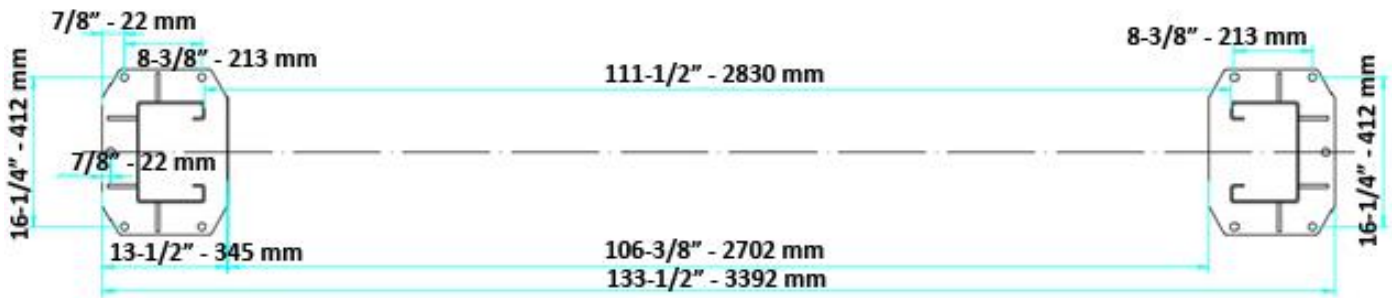
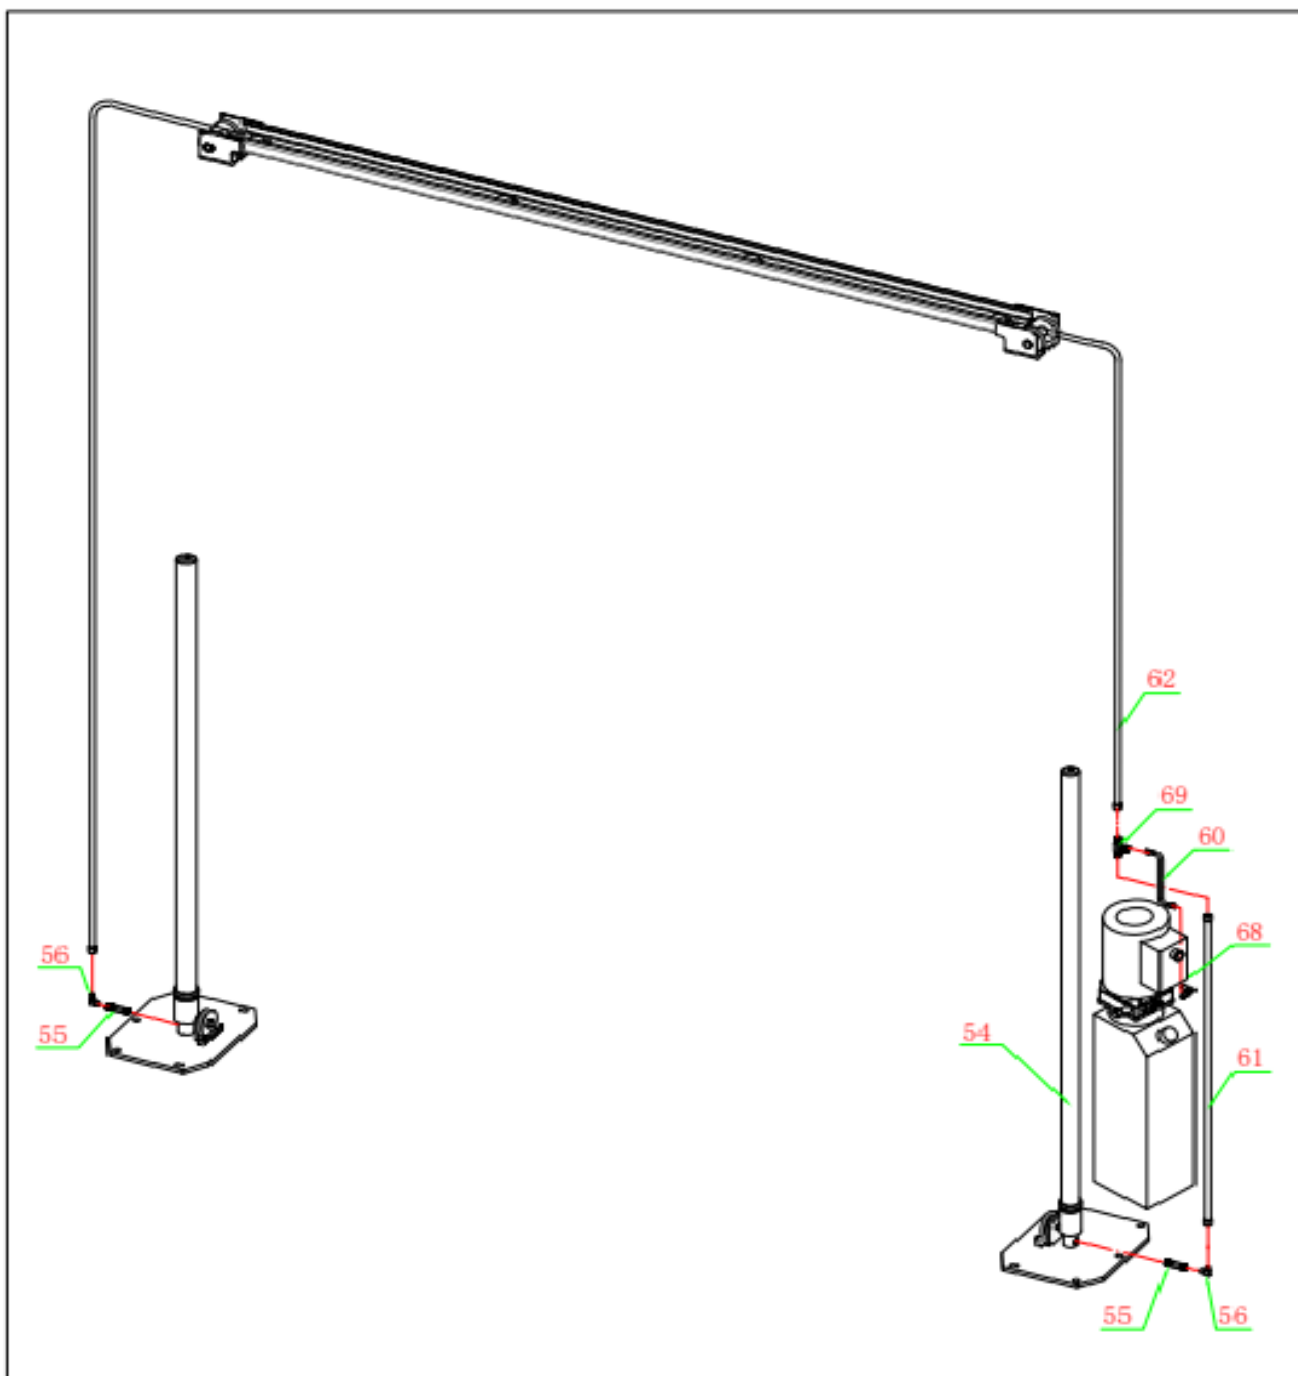

Figure 3
Figure 6
- Assembly points: (Figure 3 to Figure 6)
- Drop the two carriages to the first lock, install the nut on the wire rope as shown in the figure.. Start adjusting the nut to adjust the tension of the two steel ropes to the best state. (Figure 6)